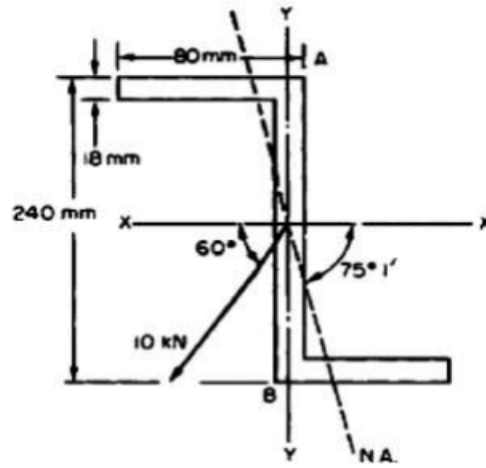

Figure 2
- A horizontal cantilever 2 m long is constructed from the Z-section. A load of 10 kN is applied to the end of the cantilever at an angle of 60° to the horizontal as shown in Figure 2. Assuming that no twisting moment is applied to the section, determine the stresses at points A and B. ($I_{xx} = 48.3 \times 10^{-6}\text{m}^4$, $I_{yy} = 4.4 \times 10^{-6}\text{m}^4$) [BL: Apply| CO: 2|Marks: 7]